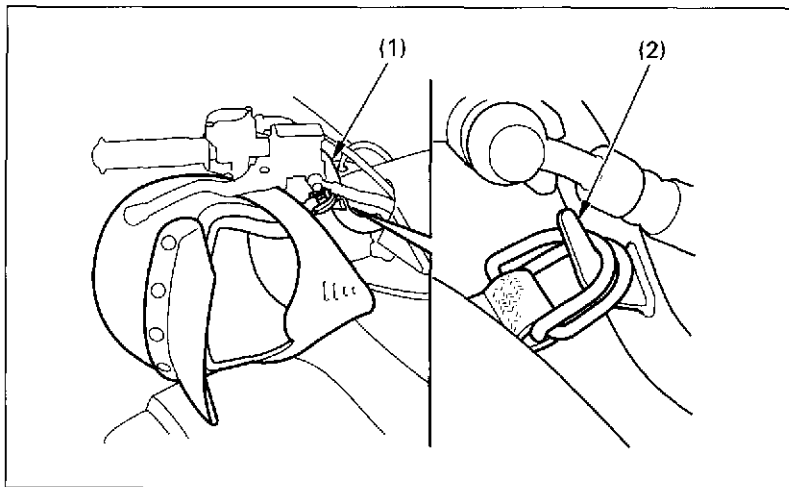

Fig. 2-22 (1) Handlebar
The helmet holder (Fig.2-22) is located on the right side of the handlebar (1). To use the holder, hang the D-ring on your helmet strap over the bracket. Use the helmet holder only when the FOURTRAX is parked.